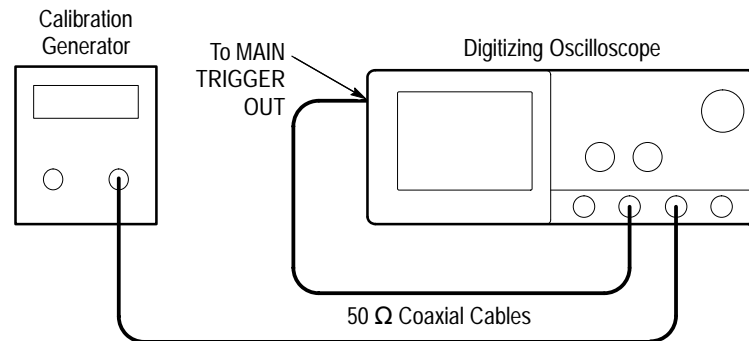

Figure 1–19: Initial Test Hookup
- Connect the standard amplitude output of a calibration generator through a 50 Ω precision coaxial cable to **CH 3**. See Figure 1–19.